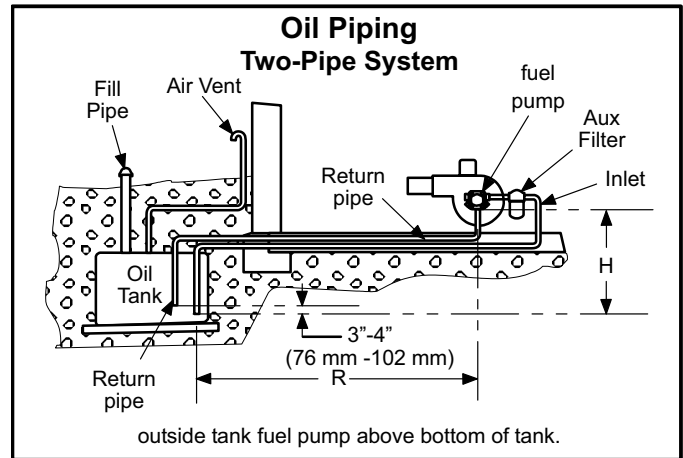

Figure 17
When using a two-pipe system with the oil tank below the level of the burner, a single-stage fuel pump should be used in lift conditions of up to 10 feet (3 m) and/or a vacuum of 10" (254 mm) Hg or less. See figure 17. Use a two-stage fuel pump when lift exceeds 10 feet (3 m) and/or a vacuum of 10" (254 mm) Hg to 15" (381 mm) Hg. Both conditions require that you use a two-pipe system, which consists of a return line that purges the fuel pump of air by returning it to the tank. To determine the run and lift for piping, refer to table 5 .
- 2 - Insert bypass plug and tighten it. See figure 17.
- 4 - The return pipe must terminate 3" to 4" above the supply pipe inlet. See figure 17.